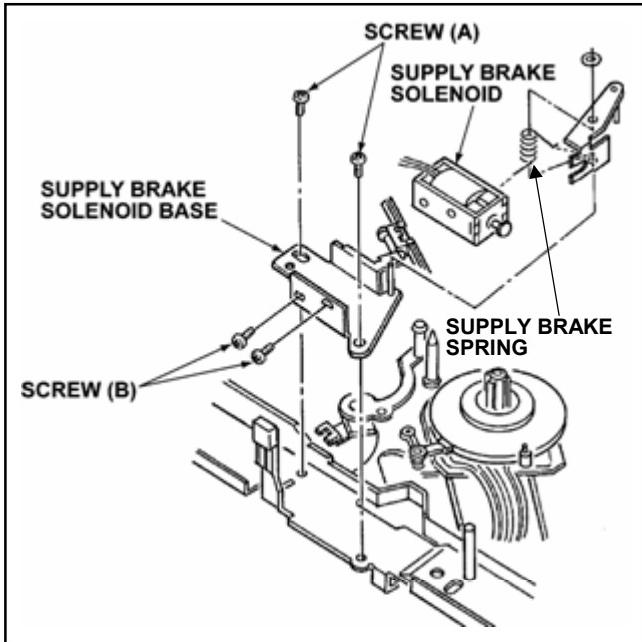

Figure. 5-8-1
2. Unscrew the 2 screws (A) and remove the Supply Brake Solenoid Base Unit as shown in Figure 5-8-1.
3. Unscrew the 2 screws (B) and remove the supply Brake Solenoid from Supply Brake Solenoid Base Unit as shown in Figure 5-8-1.
**Attach the Brake Arm Spring as shown in Figure 5-8-1.**